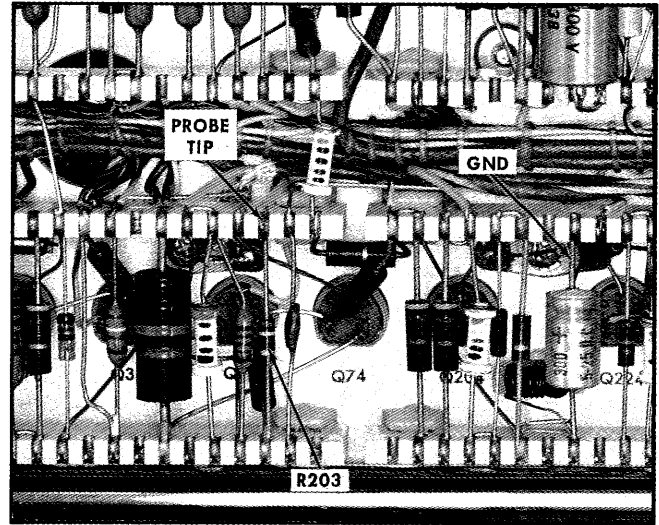
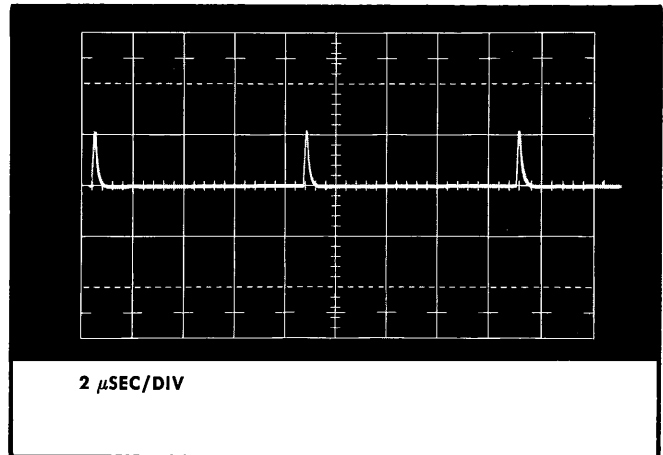

Fig. 5-13. Probe tip and ground clip locations for Step 5 d.
Fig. 5-14. Signal at R203, Step 5 d.
d. Connect the 10 \times probe ground clip to the ground lead shown, and the tip to 390 Ω R203 as shown in Fig. 5-13. The test oscilloscope display should be similar to Fig. 5-14, and the pulse amplitude greater than 8 mm, or 8 volts.